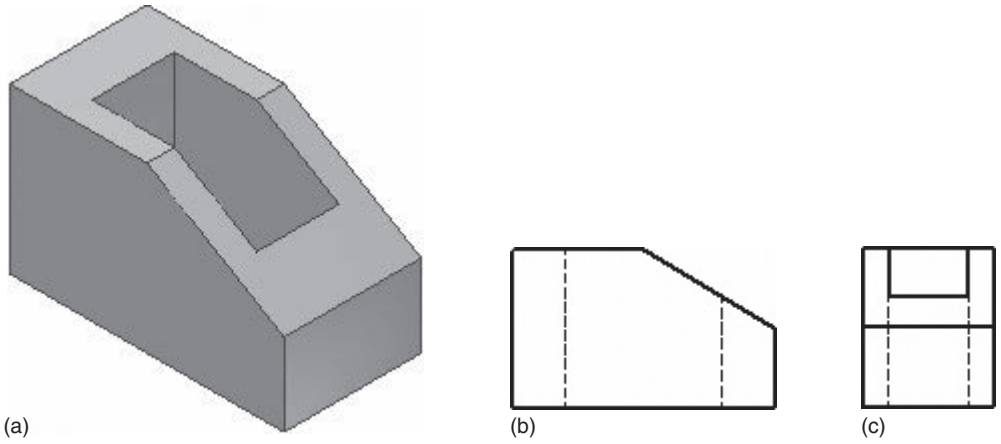

Figure MC4-1
5. Given the model shown in Figure MC4-1, which is the correct top view?
6. Given the model shown in Figure MC4-1, which is the correct front view?